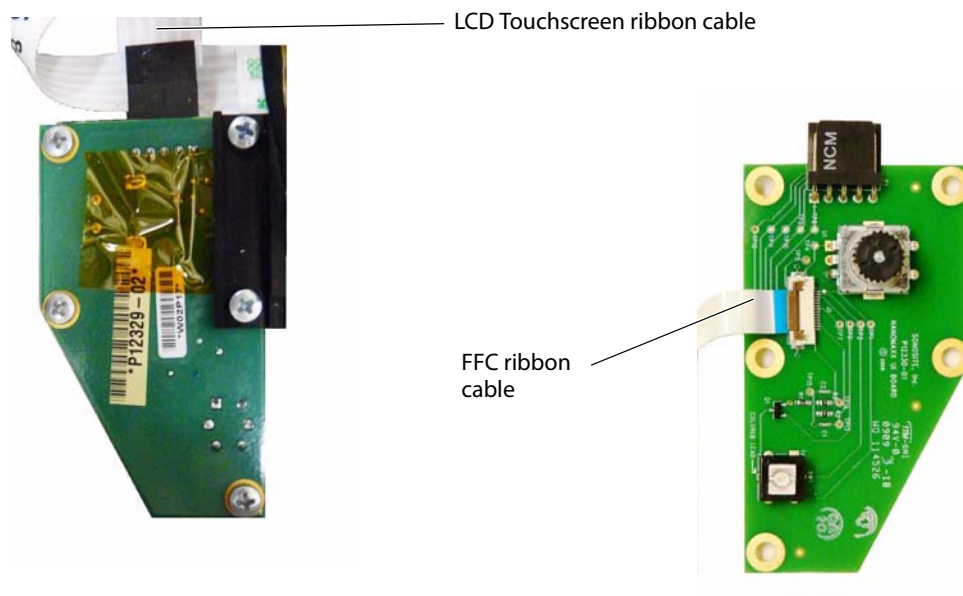

Figure 4.8 User Interface PCB Replacement
- 3 Disconnect the LCD touchscreen ribbon cable from the User Interface PCB as shown in Figure 4.8.
- 4 Remove the five screws shown in Figure 4.8.
- 5 Disconnect the FFC ribbon cable by gently lifting up on the connector latch as shown in Figure 4.8.
- 1 Reinstall the FFC ribbon cable onto the replacement User Interface PCB as shown in Figure 4.8. Ensure the cable is fully seated into the connector and reengage the connector latch.
- 2 Install the replacement User Interface PCB onto the front enclosure as shown Figure 4.8.